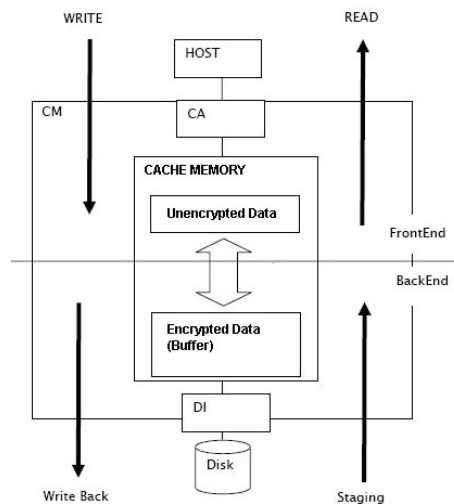

Figure 4: Disk Data Encryption Detail (Source: Fujitsu)
The Model 2200 uses a shared PCI-Express bus architecture for communication between up to eight (8) controllers and for the attachment of the channel adapters and device adapters. The PCI-Express bus runs at a speed of 2.5Gbps/sec. Additionally the Model 2200 employs high-speed FC switches for rapid communication between controllers when mirroring write cache data. Each of the up to eight (8) controllers in the Model 2200 support a dual processor environment. On the backend, the Model 2200 employs high-speed routers running at 4Gbps/sec between the controllers and the Disk Enclosures (DE's). Figure 4 below illustrates the maximum configuration and architecture of the ETERNUS8000 Model 2200.
- Eight (8) Controllers